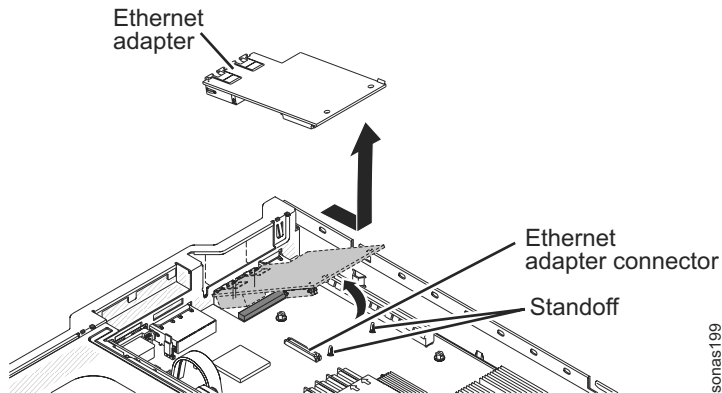

Figure 12. Removing the Ethernet adapter
6. Grasp the Ethernet adapter and disengage it from the standoffs and the connector on the system board; then, slide the Ethernet adapter out of the port openings on the rear of the chassis and remove it from the server. See Figure 12 on page 115.